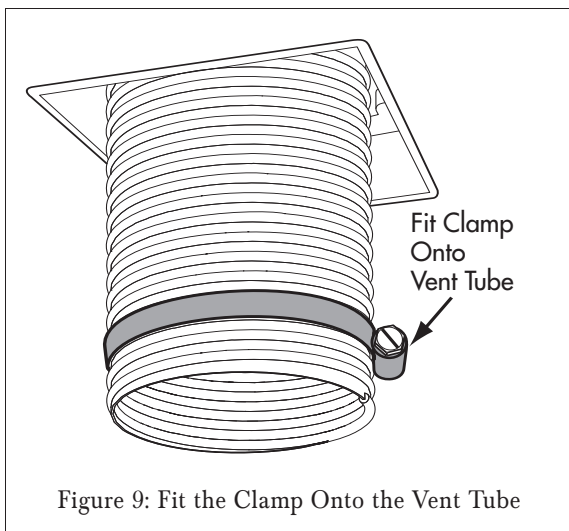

Figure 9: Fit the Clamp Onto the Vent Tube
3. Fit the Vent Tube Clamp (included with the Bandpass Connector) loosely around the vent tube (see *Figure 9*).